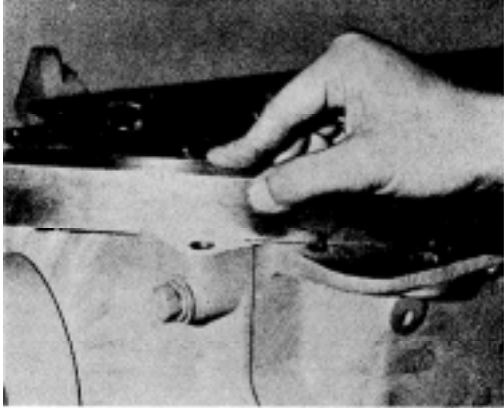

Fig. 14-12, (N114134). Checking gear case cover to block alignment
3. Make sure that bottom surface of cover is within +0.004 inch [0.10 mm] of flush with oil pan surface of block. Fig.14-12.